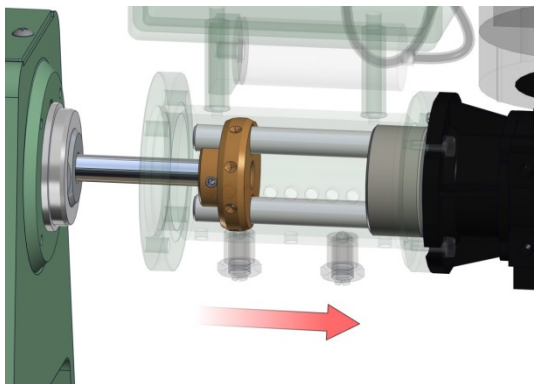

Figure 4.9.2
2. Remove the Motor and Control Housing Configuration (Item 6, Figure 7.1) from the Universal Strength Machine Base (Item 1, figure 7.1) by sliding out along the two Housing Pins (Item 6, Figure 7.4) (located inside the Cylindrical Housing Unit) through the two holes in the Rotary Disk. See Figure 4.9.2 below.